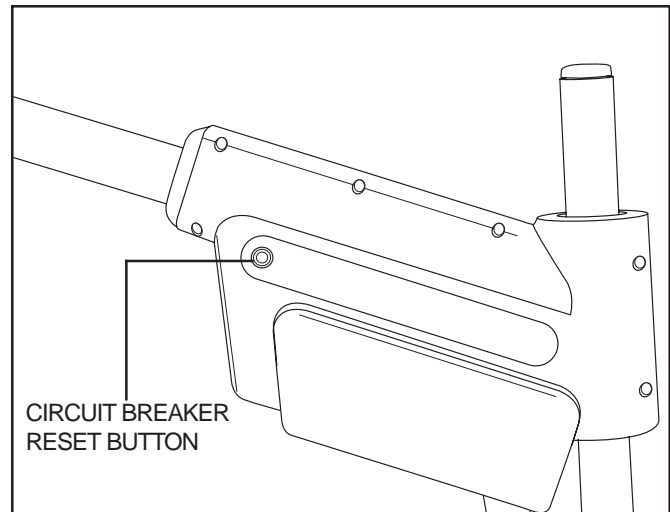

Figure 18. Circuit Breaker Reset Button
- Check the circuit breaker reset button. Reset if necessary. **See figure 18.**
If your SilverBoom 130 is heavily strained because of excessive loads, the main circuit breaker (**see figure 18**) may trip to protect the motor and electronics from damage. When the breaker trips, the entire electrical system shuts down.